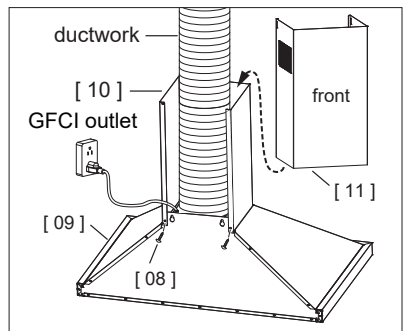

Fig 5
1. Carefully remove the **Range Hood [09]** from the wall. **Do not over pull the ductwork!** (Fig 5)
2. Hold the **Range Hood [09]** and install the **Lower Flue [10]** on the top of it. Secure the **Lower Flue [10]** to the **Range Hood [09]** by two **#4 x 0.31" Screws [08]** as figure shows. (Fig 5)
3. Slide the **Upper Flue [11]** downward from the top of **Lower Flue [10]**. Make sure the front of it faces forward. (Fig 5)
4. Connect the **Range Hood [09]** to the **GFCI outlet** and hang the **Range Hood [09]** back to the wall. (Fig 5)